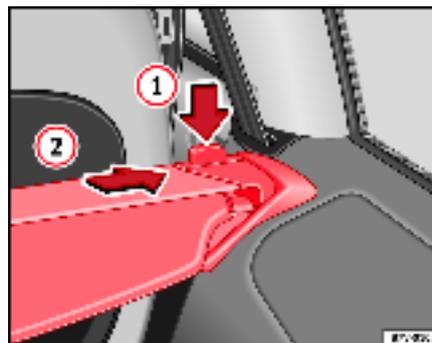

Fig. 113 Luggage compartment cover: holders on the right
- Press the unlock button (with the luggage compartment cover rolled up) ⇒ page 146, fig. 113 ① in the direction of the arrow and remove the cover from the right holder upwards.
- Remove the cover from the left holder in the direction of the arrow ② and remove from the vehicle.